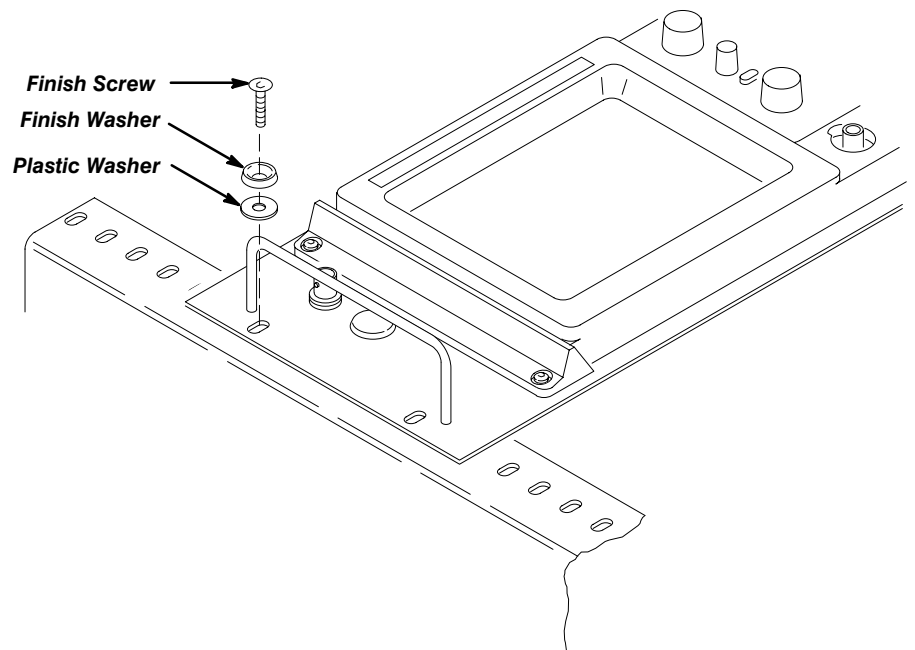

Figure 28: Secure the Rack Adapter to the Equipment Rack
3. With the instrument pushed all the way into the rack cabinet, install and tighten the mounting screws at the four corners of the rack adapter front panel (see Figure 28). Use the following parts: